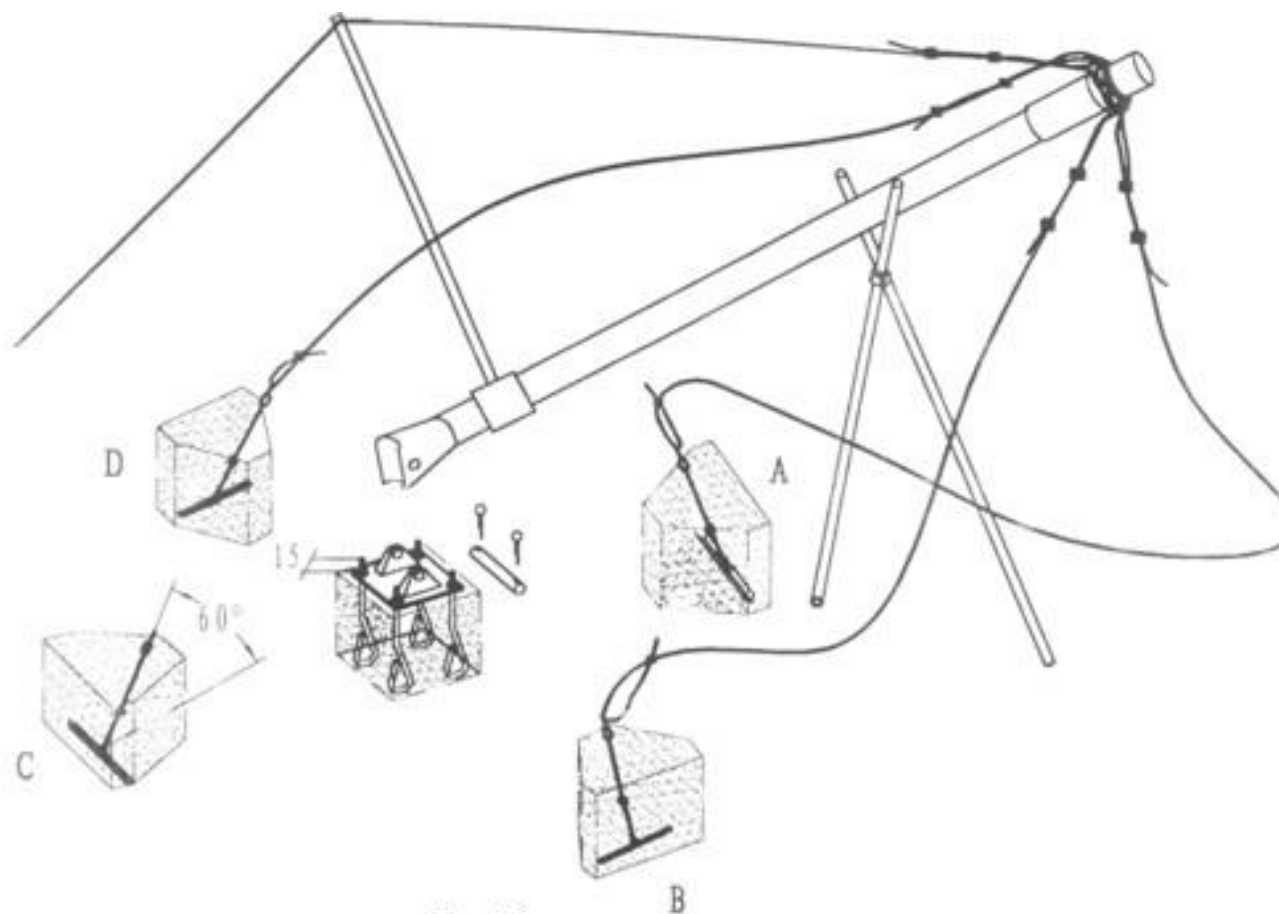

Fig 3
3.43 Hold the top of chain, and put the anchor horizontally into the base of pit following the outboard side. Lay crushed stone (about 2~5kg) into the pits, then concrete them; Lay crushed stone into the pits and concretes them again. Repeat until cram the triangular pit. Finally draw the guy wires toward the ground center with an angle of 60-degree from the ground. Hold the chain, concrete the pit until the middle part of the top link, the other half is out of the concrete. (Fig 3)